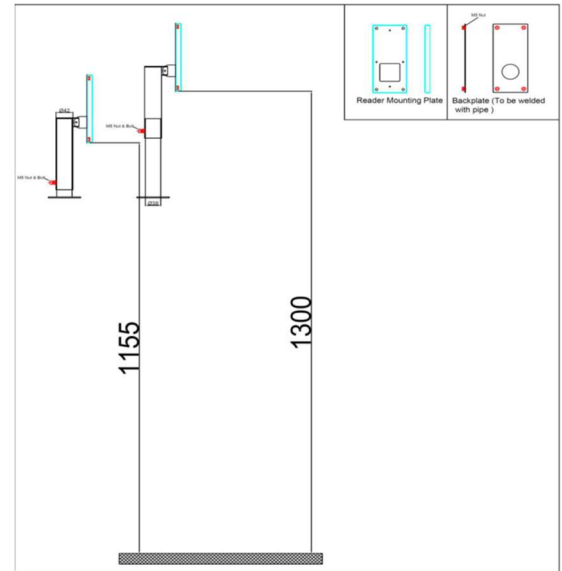

Figure 2
- Mount the FRS device on a mounting plate which is attached to a mounting pole, as shown in the Figure 2.